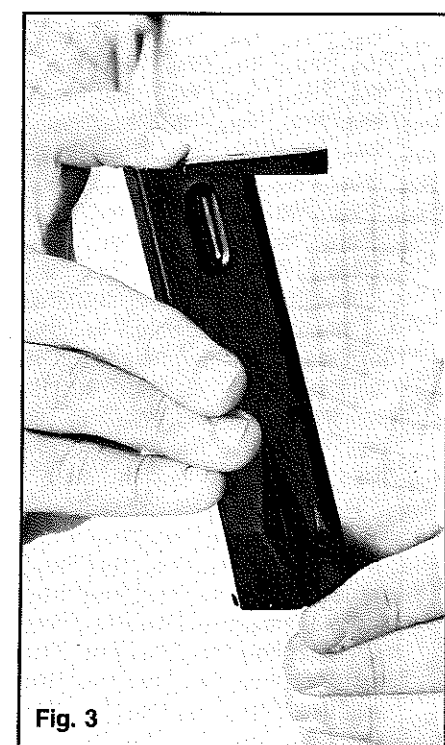

Fig. 3
To disassemble the magazine, use a punch to depress the stud on the lock plate (50). Release the magazine base (51) by sliding it forward, taking care to restrain the magazine spring (49) and lock plate as tension is released (Fig. 3).